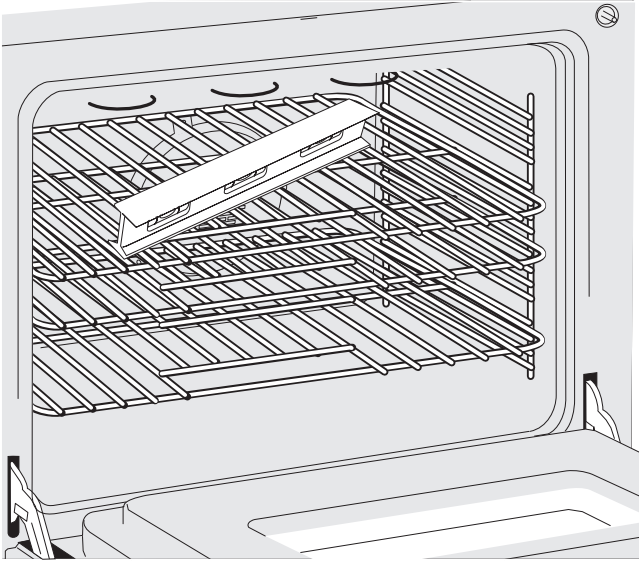

Figure 21: Use the oven racks to level appliance
2. Place a level on the rack (Figure 21). Take 2 readings with the level placed diagonally in one direction and then the other.